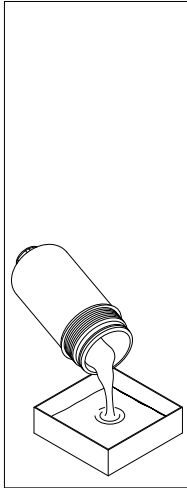

fig. 15
- (Fig. 15) Empty the operating fluid from the bowl into the collection vessel